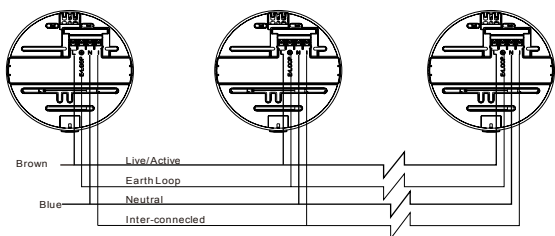

Fig. 7 – Interconnect wiring
7. Where interconnection to other ZT-MSH AC/DC smoke & heat alarms is used, install the interconnection wiring as shown in Fig. 7.